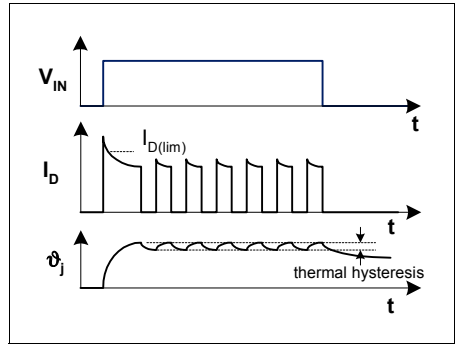

**Figure 7** Inductive and Over voltage Output Clamp
1) See also Figure 7 and Figure 10.